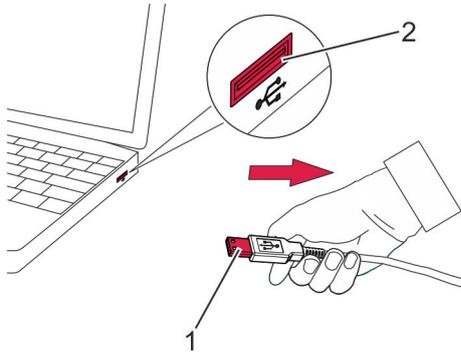

Fig. 18: Shutting down the ChronoMaster
4. ➤ Disconnect the USB cable (Fig. 18/1) at the USB plug from the USB port of the PC or tablet computer (Fig. 18/2).